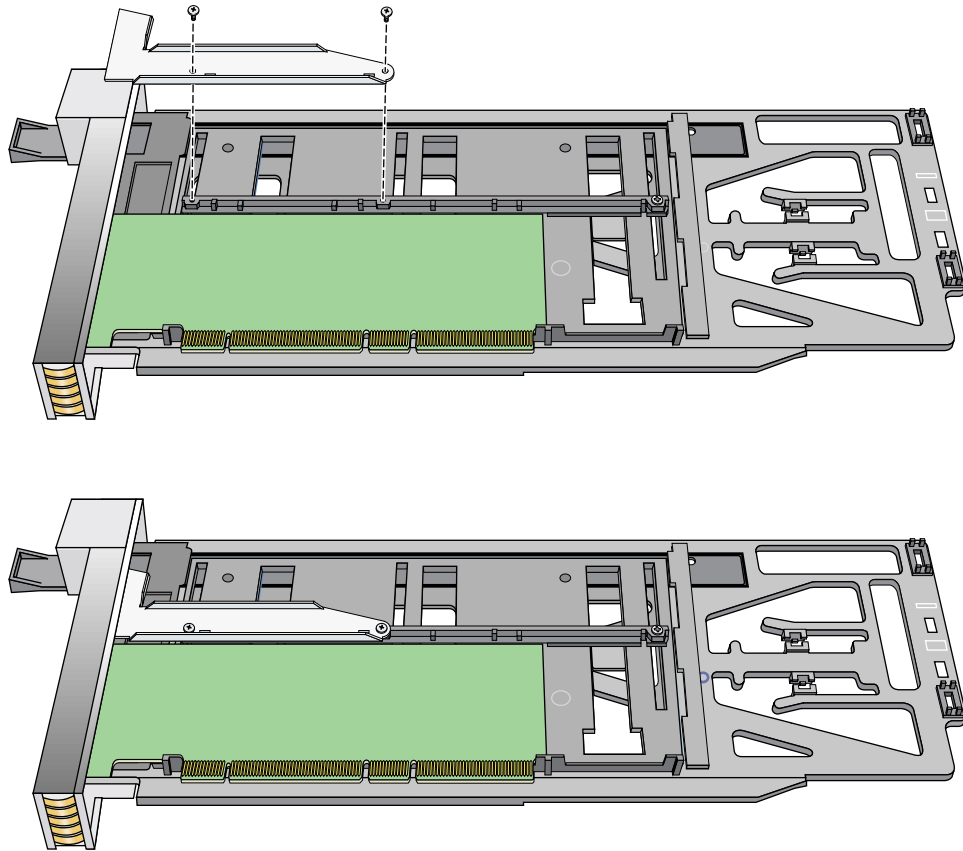

Figure 12-7 Installing the Bracket to Secure a Half-height PCI Card
- e. Place the PCI card bracket so that the screw holes of the bracket align with the empty screw holes of the carrier guide bar, as shown in Figure 12-7.